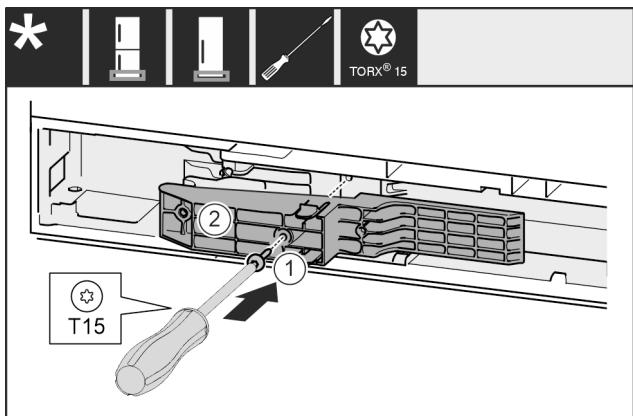

Fig. 51 *
- ▶ Insert the adapter piece Fig. 51 (1) on the handle side into the recess.*
- ▶ Tighten the screw Fig. 51 (2) with the screwdriver.*